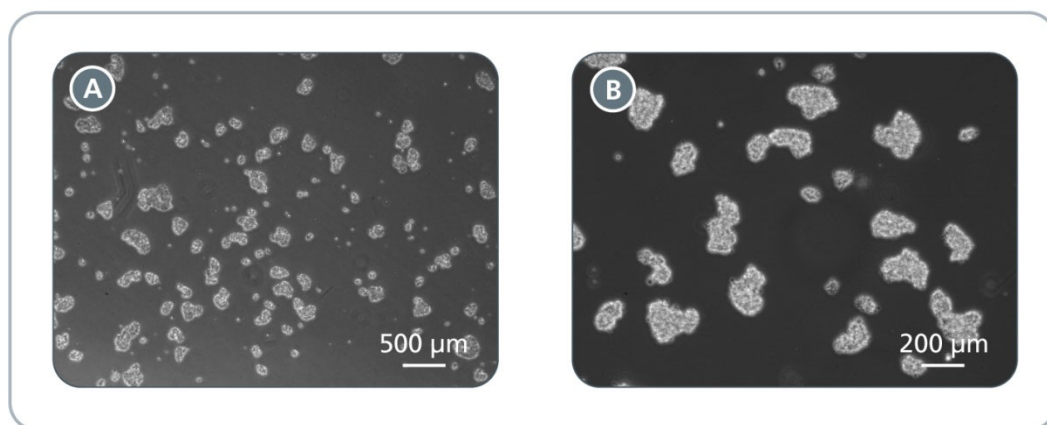

Figure 9. Effect of ReLeSR™ on Human Pluripotent Cells Cultured in TeSR™2
Note: Optimal dissociation time may vary depending on the cell line used; when passaging a cell line with ReLeSR™ for the first time, the optimal dissociation time should be determined (for more information see Figure 9 and section 8.0).
8. Transfer the detached cell aggregates to a 15 mL conical tube using a 5 mL serological pipette (e.g. Catalog #38003). Cell aggregates should be appropriately sized for plating (mean aggregate size of approximately 50 - 200 μm ; see Figure 9).